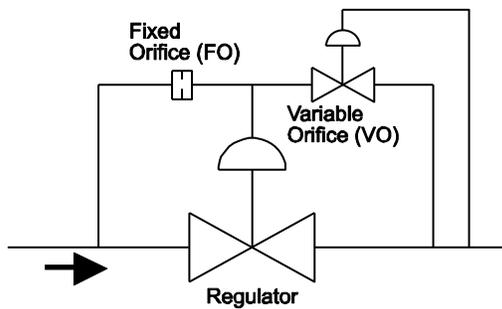

Fig. 3 Typical Pilot System
The accuracy of the system is a function of the "GAIN" or multiplication of the pilot system which is primarily dependent on the ration of the flow area of the Fixed Orifice (FO) to the Variable Orifice (VO) (see Figure 3). The fixed orifice is always smaller that the variable orifice and in many systems the fixed orifice is adjustable so that the regulator may be adjusted in the field for the highest gain (greatest accuracy) possible. Gain values of 50:1 are not uncommon, which means that the pressure can be controlled to within 2% of the set point.